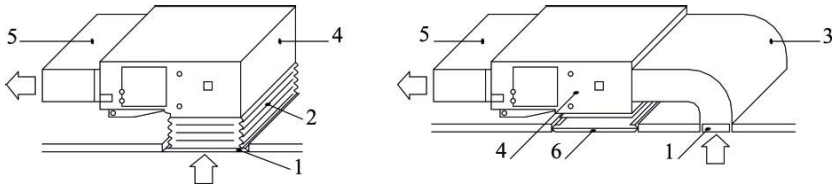

Fig.12
- e. The installation method can be chose with considering the conditions of the bullding and maintenance etc., as shown in Fig.12.